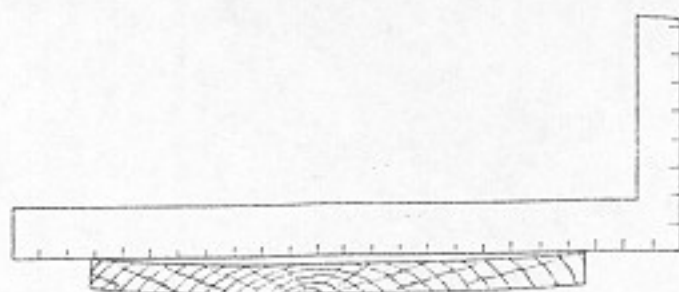

Fig. 91. Testing a warped board with a framing square.
4. Light cuts are taken with the plane, pressing on the knob at the beginning of the stroke and on the handle at the end of the stroke. If possible, one continuous cut should be taken from one end of the board to the other. The board should be tested frequently for flatness with a try-square or a framing square (Figs. 91 and 114).
6. Planing a Warped Board. The surface also may be either hollow or round along the center. In this case the board is simply warped, and a little more must be taken off at the sides or in the middle, as the case may be (Fig. 91).